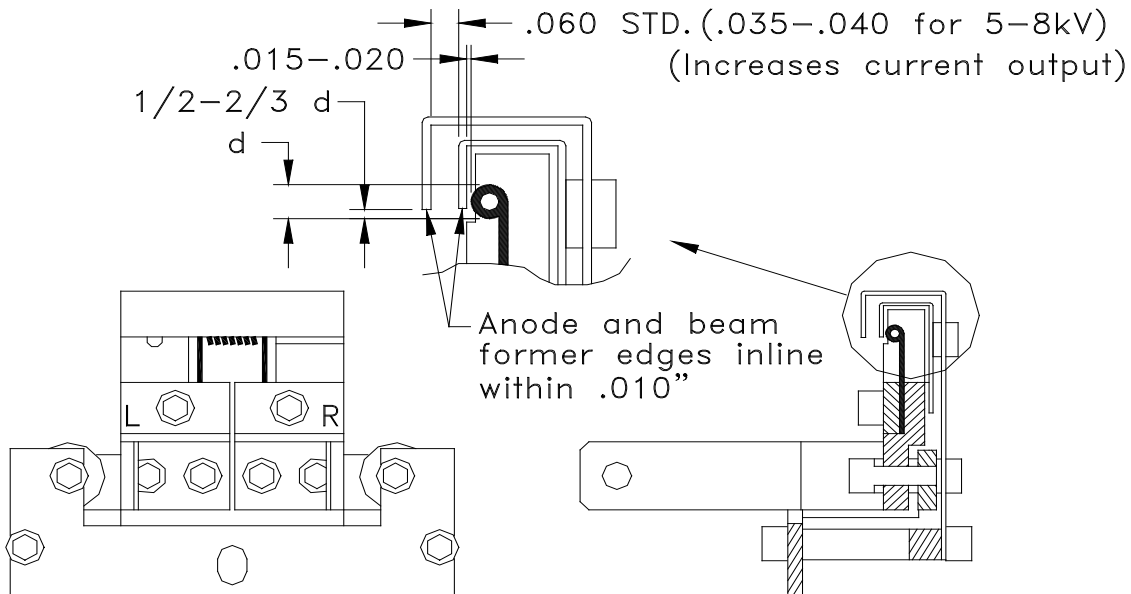

Figure 2-A Filament Location
If the emitter is disassembled, refer to 273-0150-1 pdf drawing and figure 2-A. Ninety percent of system problems during production relate to the EB-source emitter, so pay close attention to its assembly. It is of the utmost importance to trouble free runs.
- 11** The relative position of the anode plate, the beam former, and the filament must be precise to .005" (Refer to Figure 2-A). The filament (coils forward!) normally projects 1/2 of its diameter or slightly more (2/3) below the beam former. These dimensions are only a starting point. The clearance between these three elements should be judged based on experienced performance. The source will only work properly if these clearances are properly maintained.
- 18** Install the new filament, making sure that the filament orientation is correct (see figure 2-A). Using new #6 x 1/4" screws, loosely mount the filament clamps in place. Gently tap the emitter assembly on a flat surface to settle the filament into place. Slide the filament clamp on the right cathode block until it is flush with the right side of the block. Snug the right #6 x 1/4" screws. Gently push the left hand clamp into place. NOTE: Sliding this clamp can cause the filament to warp or bow. Snug the left #6 x 1/4" screws. Now check the alignment of the filament to the beam former.
- 22** Push down on the Anode and tighten the last two #6 x 1/4" screws. Check the alignment of the Anode to the beam former (see figure 2-A). The rebuilt emitter assembly is now ready to be installed back in the EB-source.